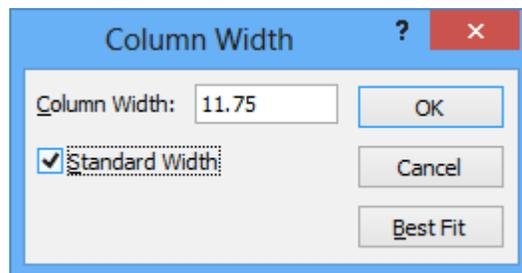

Figure 12: Column Width Window after Selecting the **Field Width** Item
- **Set Column Width:** The column width can be set only when the subform is in datasheet view. The easiest way to put the subform in datasheet view is to put the main form in form view. After placing the main form in form view, notice that some of the subform datasheet columns are too wide. To make the column sizes uniform, right-click on the heading of the first column to select the column and open the shortcut menu. Select the **Field Width** command and click the “Standard Width” check box in the window (Figure 12). You can also use the **Best Fit** button for a tighter fit. Repeat this process for each field in the subform datasheet. You may have to use the horizontal scroll bars to access the last few columns.